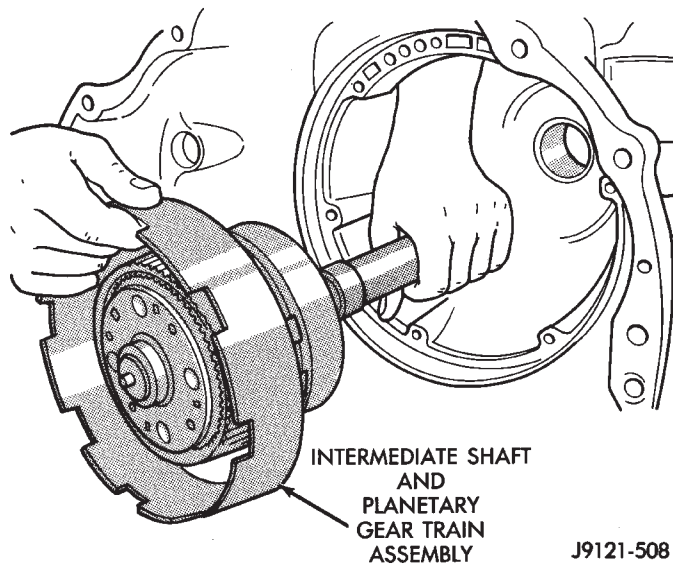
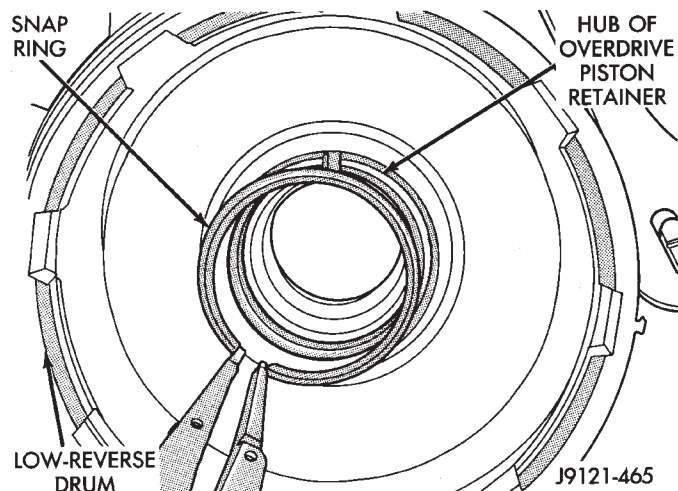

Fig. 28 Removing Intermediate Shaft And Planetary Geartrain Assembly—46RH
Fig. 29 Removing/Installing Low-Reverse Drum Snap Ring—46RH
(28) Remove intermediate shaft-planetary geartrain assembly (Fig. 28). Set assembly aside for disassembly and inspection later in procedure.
(29) Loosen rear band adjusting screw 3-4 turns.
(30) Remove snap ring that retains low-reverse drum on overdrive piston retainer hub (Fig. 29).